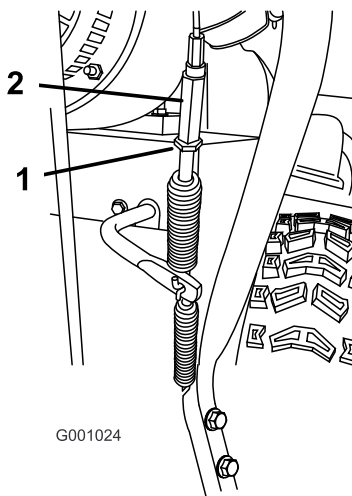

Figure 44
5. Loosen the jam nut (Figure 44).
6. Loosen or tighten the turnbuckle that adjusts the tension on the cable (Figure 44).